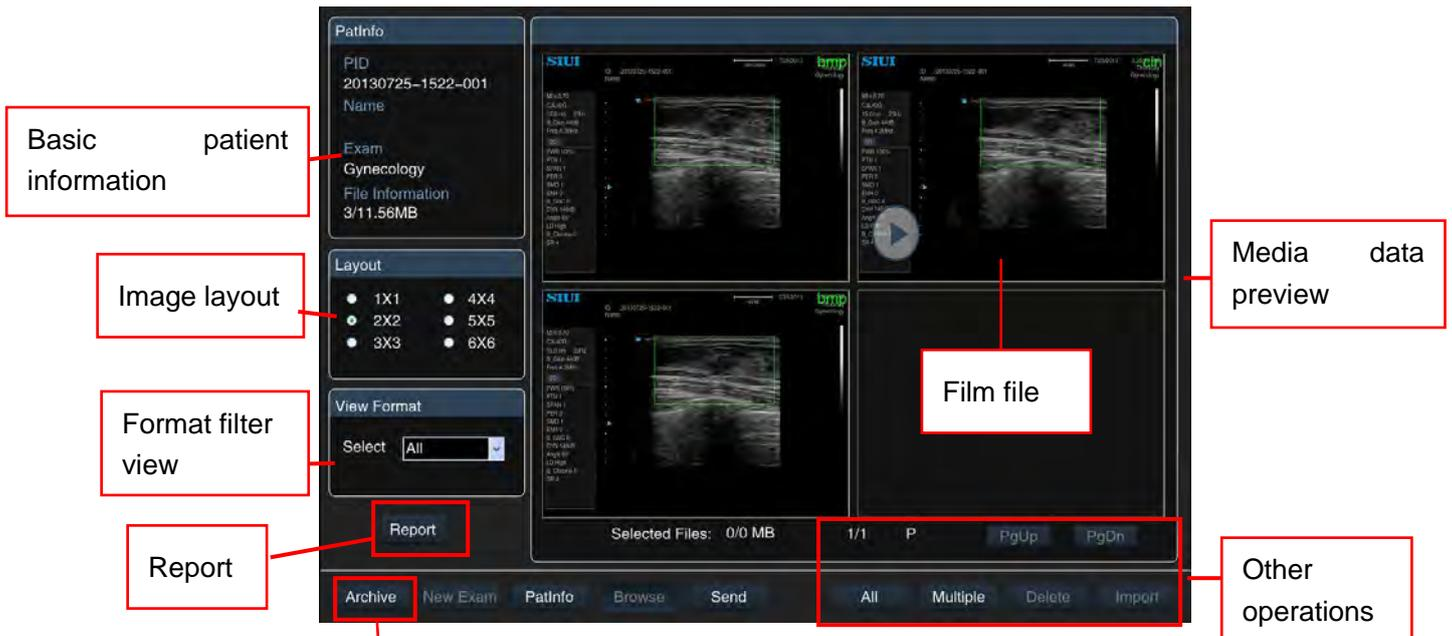

Fig. 9-16 Browsing patient information
After you have found the exact patient information you required, move the cursor to this patient information record, and press **Set** to select it. Move the cursor to **Browse** at the bottom edge of the screen and then press **Set** or double-click on this patient information to bring up the browse media files window, as shown in Fig. 9-16.
- d) **Media preview:** Preview all media information on the current patient, including images and films in JPG, AVI, CIN and VOLS, etc. formats. (The file format is displayed top right, and the cine files are marked with  bottom left, as shown in Fig. 9-16).